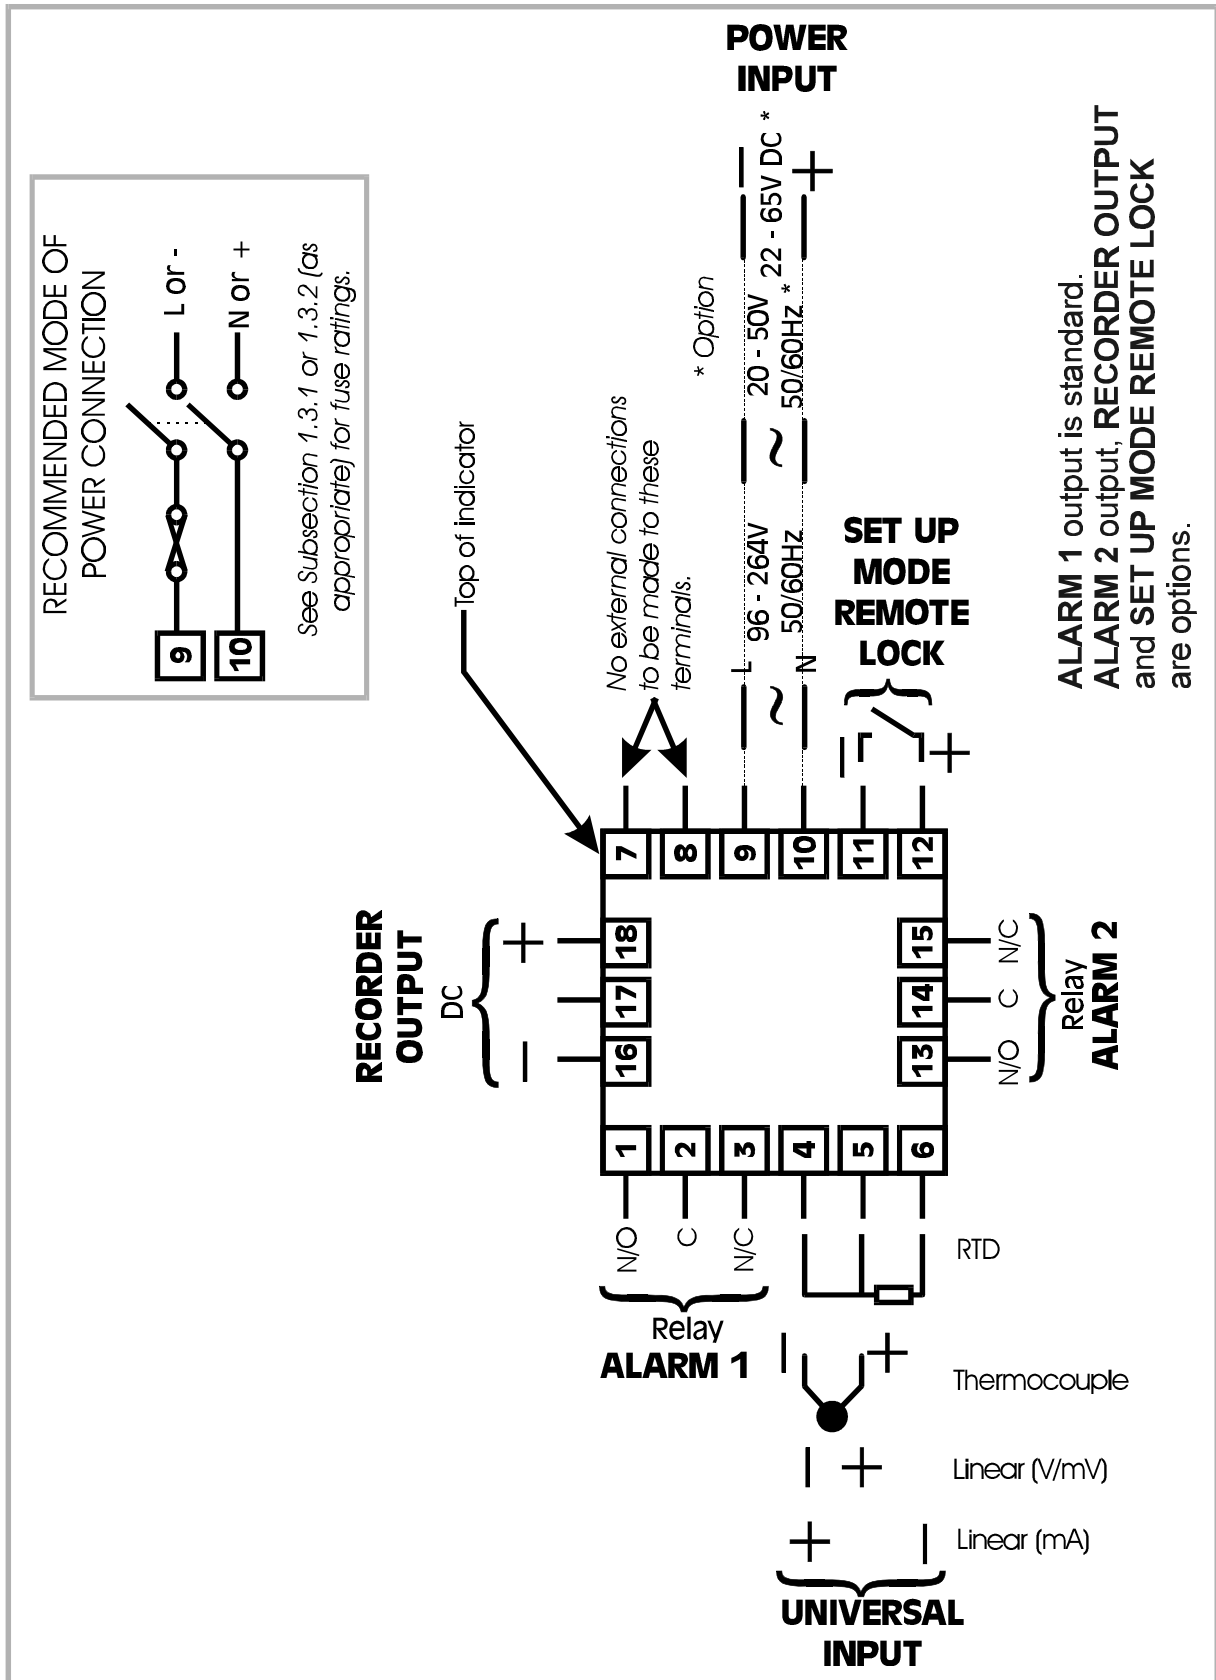

Figure 1-4 Rear Terminal Connections
The rear terminal connections are illustrated in Figure 1-4.
**CAUTION:** This equipment is designed for installation in an enclosure which provides adequate protection against electric shock. Local regulations regarding electrical installation should be rigidly observed. Consideration should be given to prevention of access to the power terminations by unauthorised personnel. Power should be connected via a two-pole isolating switch (preferably situated near the equipment) and a 1A fuse, as shown in Figure 1-4.
The supply connections for the 24V AC/DC version are shown in Figure 1-4. Power should be connected via a two-pole isolating switch and a 315mA slow-blow fuse (anti-surge Type T).
For linear mA input ranges, connection is made to Terminals 4 and 6 in the polarity shown in Figure 1-4. For linear mV and V ranges, connection is made to Terminals 4 and 5 in the polarity shown in Figure 1-4. For details of the linear input ranges available, refer to Appendix A.